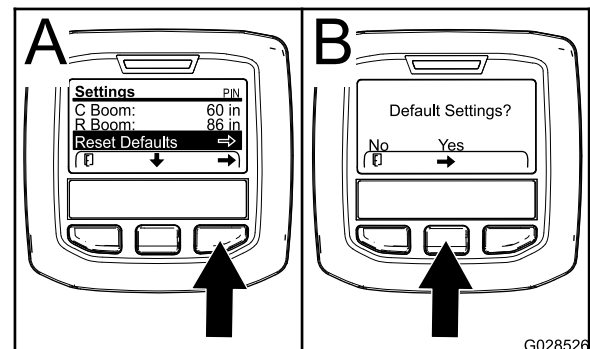

Figure 74
1. Press the center selection button to navigate to the Reset Default entry (Figure 74).
3. In the Default Settings screen, press the left selection button for NO or the right selection button for YES (Figure 74).